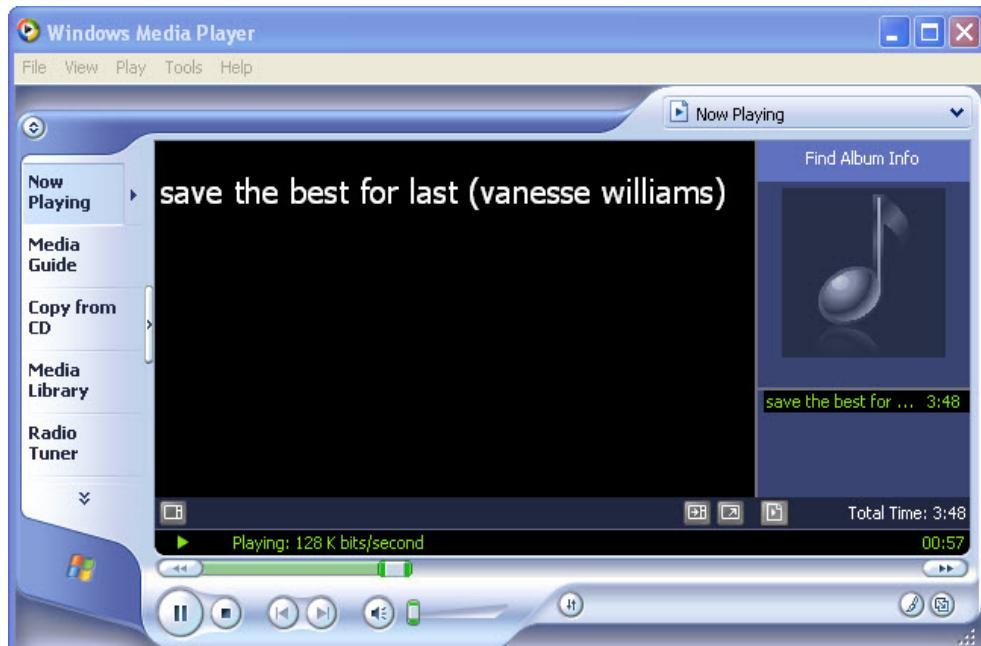

Figure L-15. Windows Media Player
4. The window shown in the Figure L-15 appears. Select and play your favorite song, you can hear the song clearly.